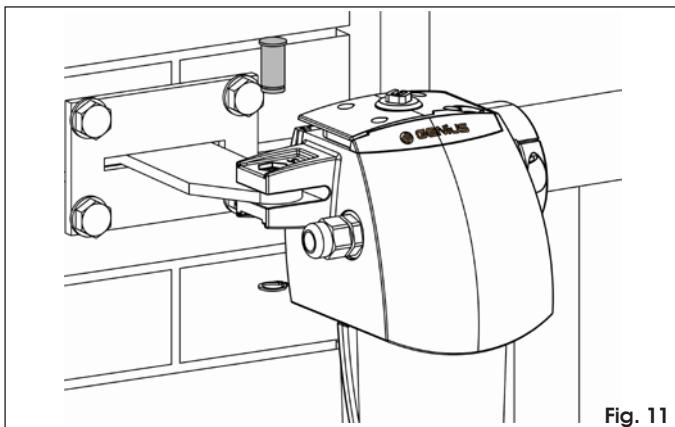

Fig. 11
① Useful rod stroke ② maximum dimension ③ minimum dimension
- Fasten the operator on the rear bracket you have just secured, using the supplied pins and elastic rings (Fig. 11).